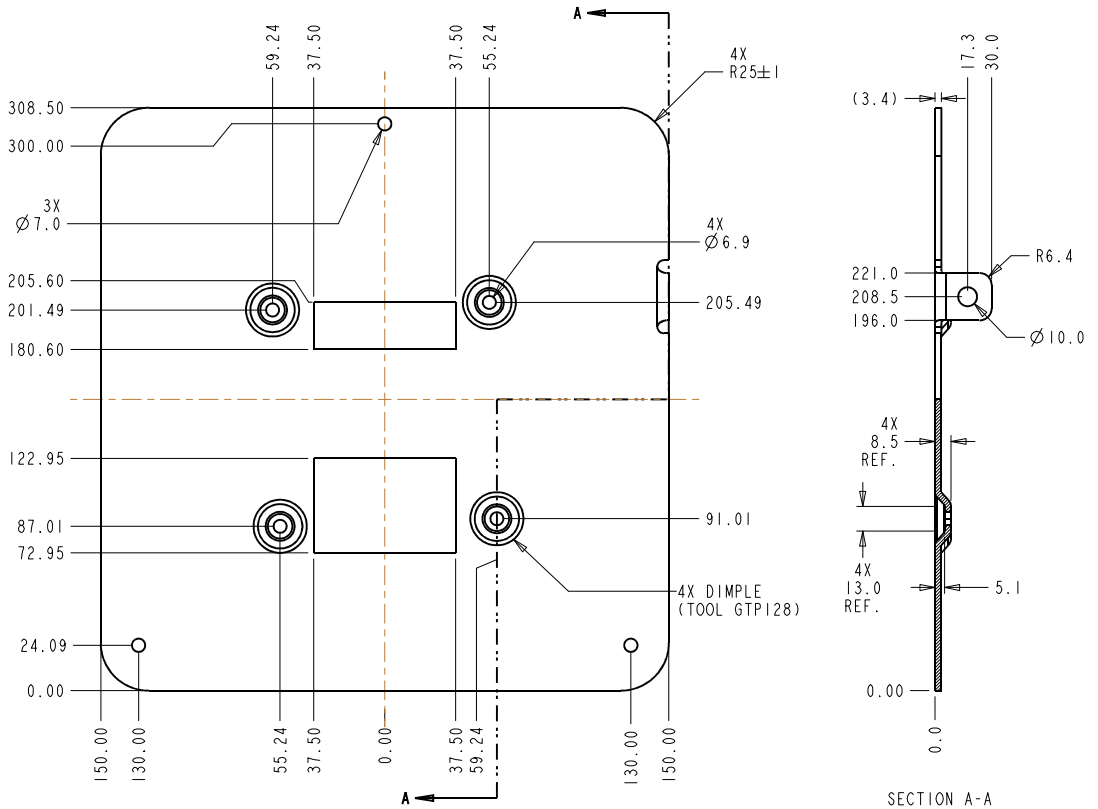

Figure 5: SMART-MR10/15 Mounting Kit, AG GPS 262 (01018623)
- Mounting Kit, AG GPS 262 (part number 01018623), shown in *Figure 5 on page 29*.